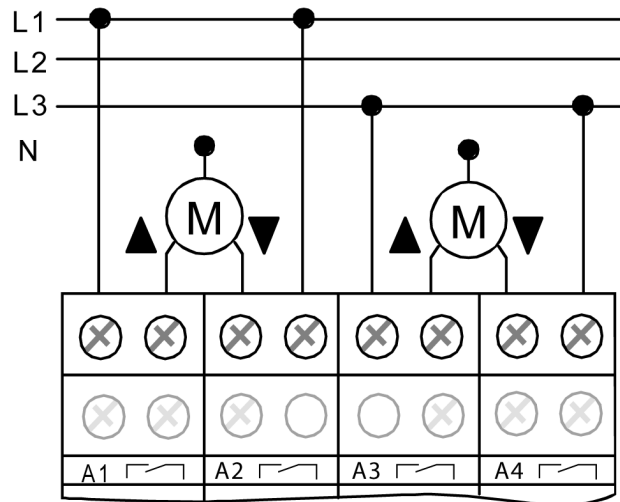

Figure 5: Electrical connection for 230 V drives in blinds operation
- Connect drive motors as shown in (figure 5) (connection example).